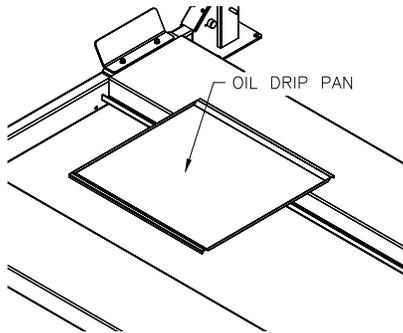

Fig 26 – Oil Drip Tray
- 1) Place drip tray between runways in the Jack rail, **Fig 26**.